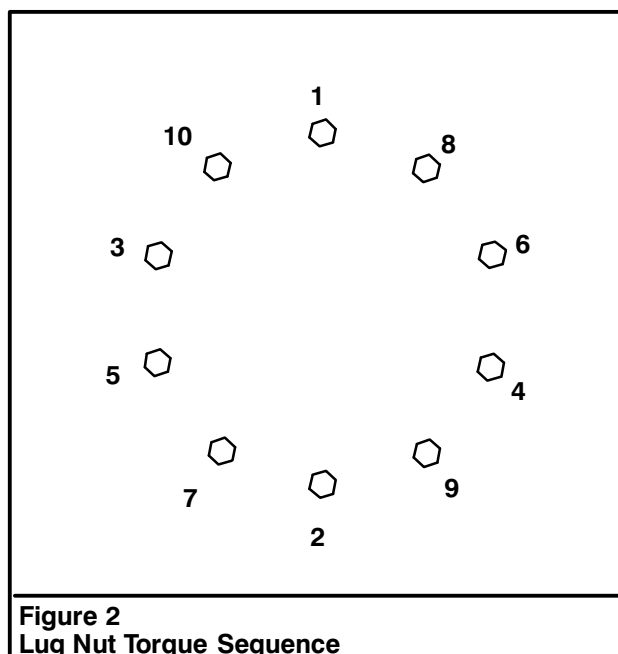

Figure 2
4. Install and hand tighten two opposing lug nuts (4).
5. Install all remaining lug nuts (4). Using a criss-cross pattern, tighten the lug nuts (4) to an initial torque of 225–250 ft lb (305–339Nm). Refer to Figure 2 for the proper torquing sequence.
6. Tighten the lug nuts (4) to a final torque of 450–500 ft lb (610–678Nm).
7. Install the core in the valve stem (6) on the tire and rim assembly (3).
8. Position a restraining device, such as a rim cage, in front of the tire and rim assembly (3).
9. Properly inflate the tire and rim assembly (3). Correct tire pressures are listed on the Gross Axle Rating Plate and/or in the Crane Rating Manual, as applicable. Refer to "Tire And Rim, Inspection And Maintenance" in SM Keysheet Area 01–069 for additional information.
11. Complete the installation by road testing the crane. Drive the crane approximately 1 mile (1.6km), then retorque the lug nuts (4) to 450–500 ft lb (610–678Nm). Refer to Figure 2 for the proper torquing sequence. Install the caps (1). After approximately 50–100 miles (80–160km), retorque the lug nuts (4) again. Check the lug nut (4) torque every 50 hours of operation thereafter.